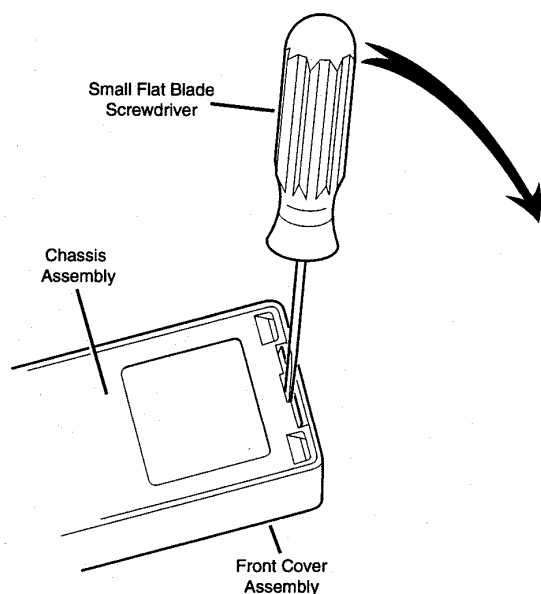

Figure 2
5. Separate the front cover assembly from the internal electronics (chassis) (see figure 2).